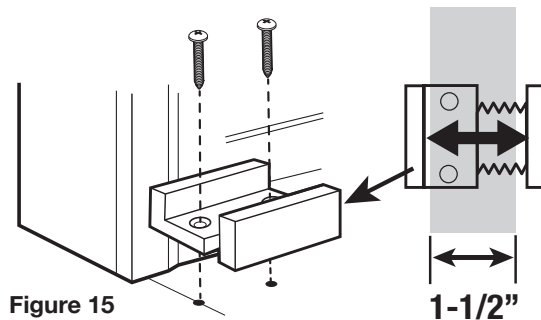

Figure 15
The Bottom Door guide (V) keeps the door from swinging outward away from the wall. To locate the proper installation position in the floor, slide the door into the closed position and mark the outside edge of the door on the floor. Now place the door into the open position and mark the inside edge of the door on the floor. Make sure your guide location is well marked. Make sure that whether the door is in the open or closed position, that the door NEVER leaves the Door guide. This is the proper location for the Door guide. Set the width of the floor guide to 1-1/2". Slide the door out of the way and place the guide on the floor in between the 2 marks. Pre-drill holes if necessary for your floor type. Using a drill and the screws provided, secure the Door guide to the floor. **See Figure 15.**